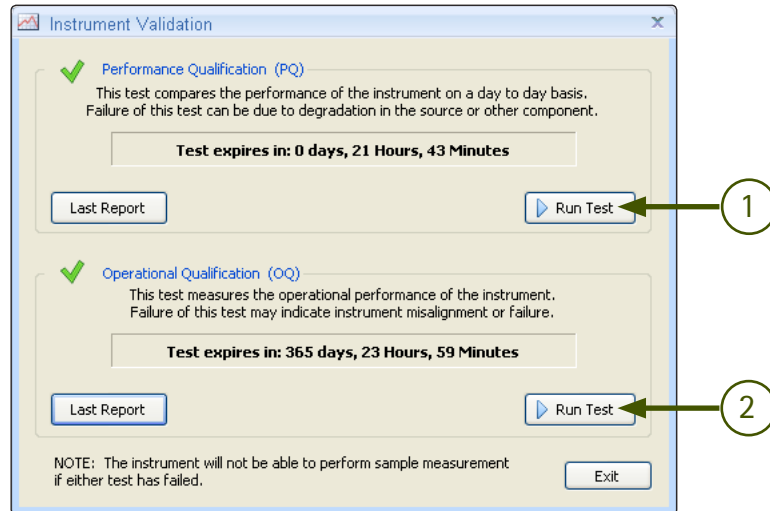

Figure 36. Instrument validation dialog
12. When the instrument validation dialog appears, click on the **Performance Qualification Run Test** button (1 in Figure 36). The test takes about 5 minutes.